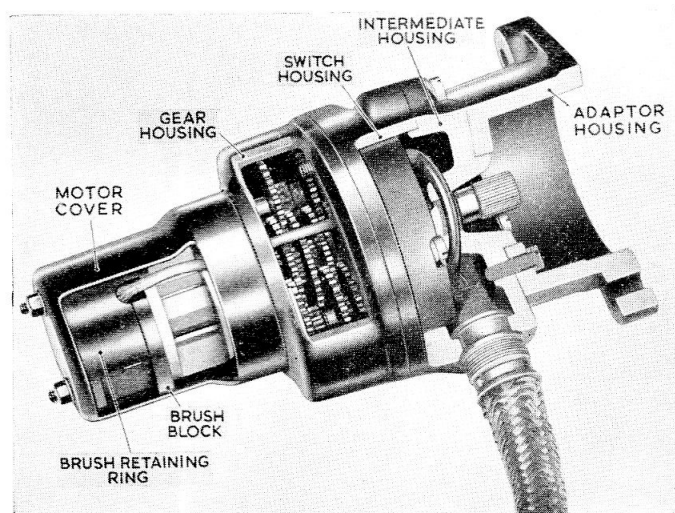
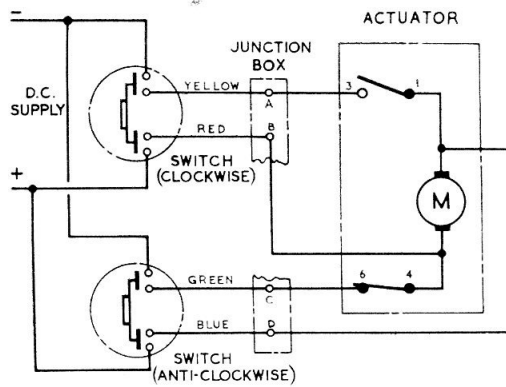

Fig. 1. Actuator, Type C5001/2
Fig. 2. Circuit diagram
1. The C5001/2 rotary actuator is similar to that described in the main chapter. It has an adapter housing fitted over the splined drive coupling, the adapter housing being secured to the face of the switch housing (fig. 1). External electrical connection is made through a 10 ft. long lead of Quin-prenmet cable. The theoretical circuit diagram (fig. 2) shows the wiring connection for operation of the actuator, but details of particular installations should be obtained by reference to the relevant Aircraft Handbook.